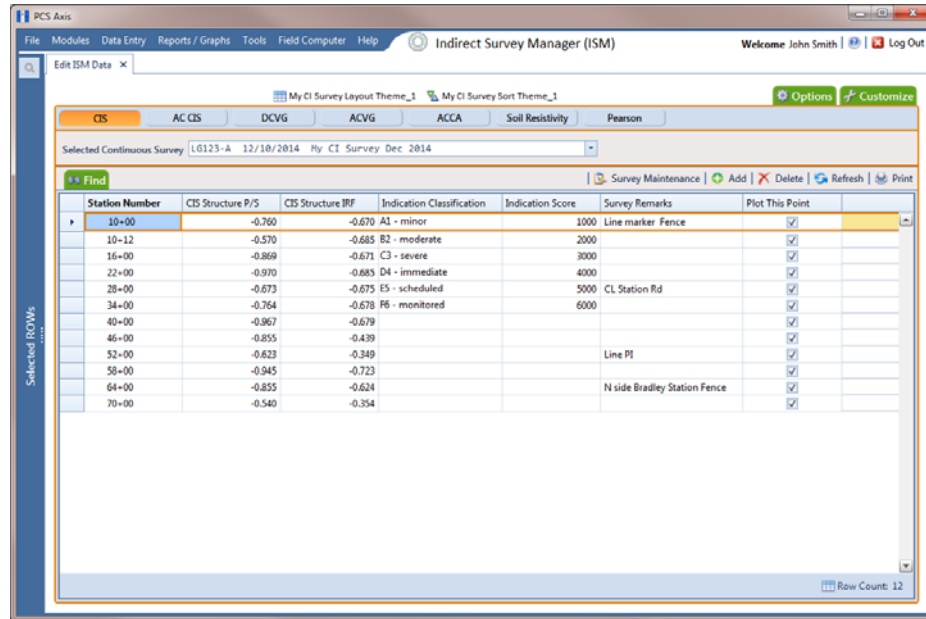

Figure 7-63. Edit ISM Data
- 3 Click **Data Entry > Edit ISM Data** to open the ISM data entry grid. Then click a button labeled with the type of continuous survey data you want to work with, such as the **CIS** button  (Figure 7-63, page 278).